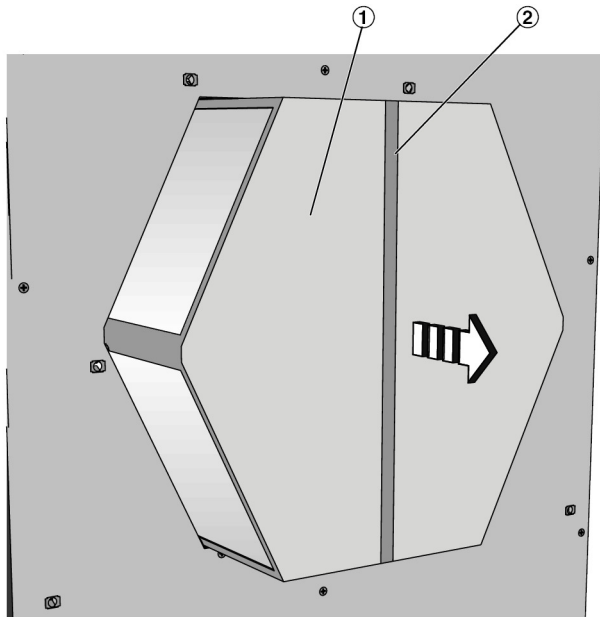

Fig. 31: Removing the heat recovery unit
3. ▶ Grasp the heat recovery unit (Fig. 31/1) by the lug (Fig. 31/2) and pull it out.
Rinse the heat recovery unit (Fig. 31/1) with hot water (40 °C max.), e.g. by using a commercially available shower head.